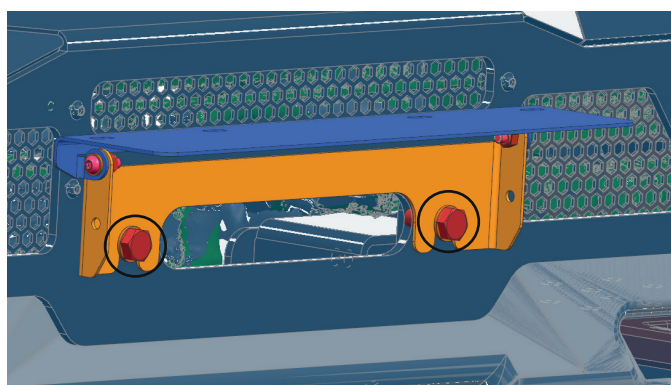

Fig. 52
52. Install license plate bracket (item 16) and fix it using bolts M10x30 (item F) and washers 10 (item P) as shown in fig.52,53.